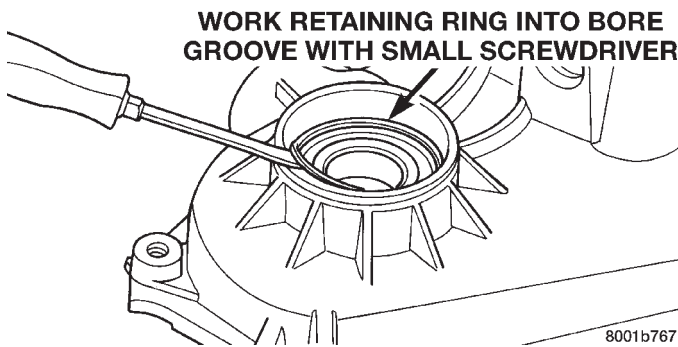

Fig. 44 Installing Output Shaft Front Bearing Retaining Ring
- (5) Install output shaft front bearing retaining ring (Fig. 44). Start ring into place by hand. Then use small screwdriver to work ring into case groove. Be sure ring is fully seated before proceeding.
- (6) Install new front output seal in front case with Installer Tool 8143 as follows: